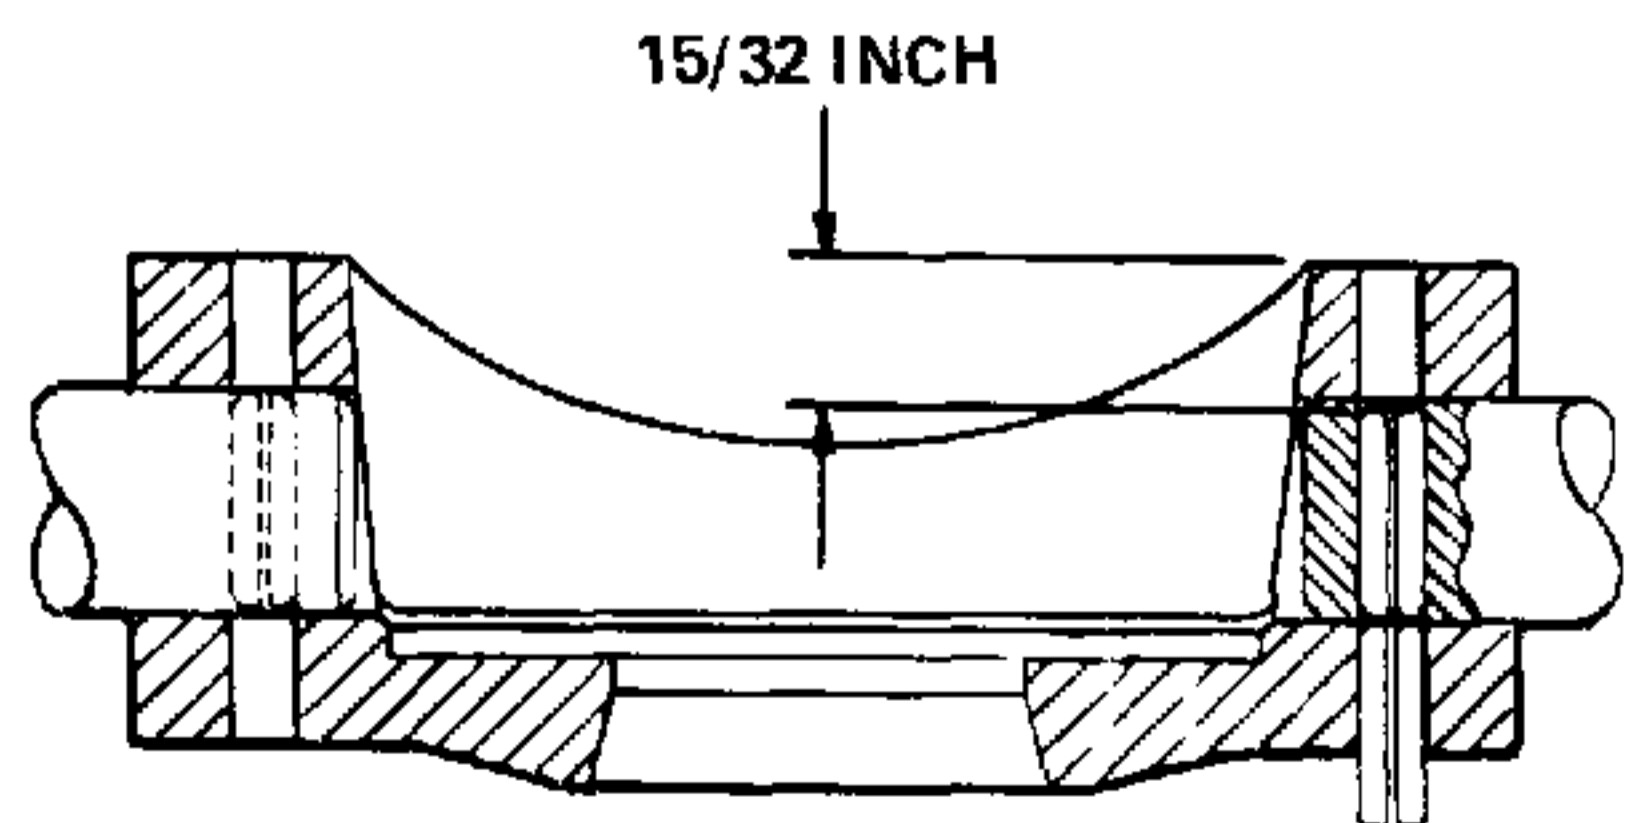

Figure 5-82. Hydraulic Pump Swashplate.
(2) Carefully drive pins (41) until mark on punch is even with top surface of swashplate (43), a distance of 15/32 inch. Refer to Figure 5-82.